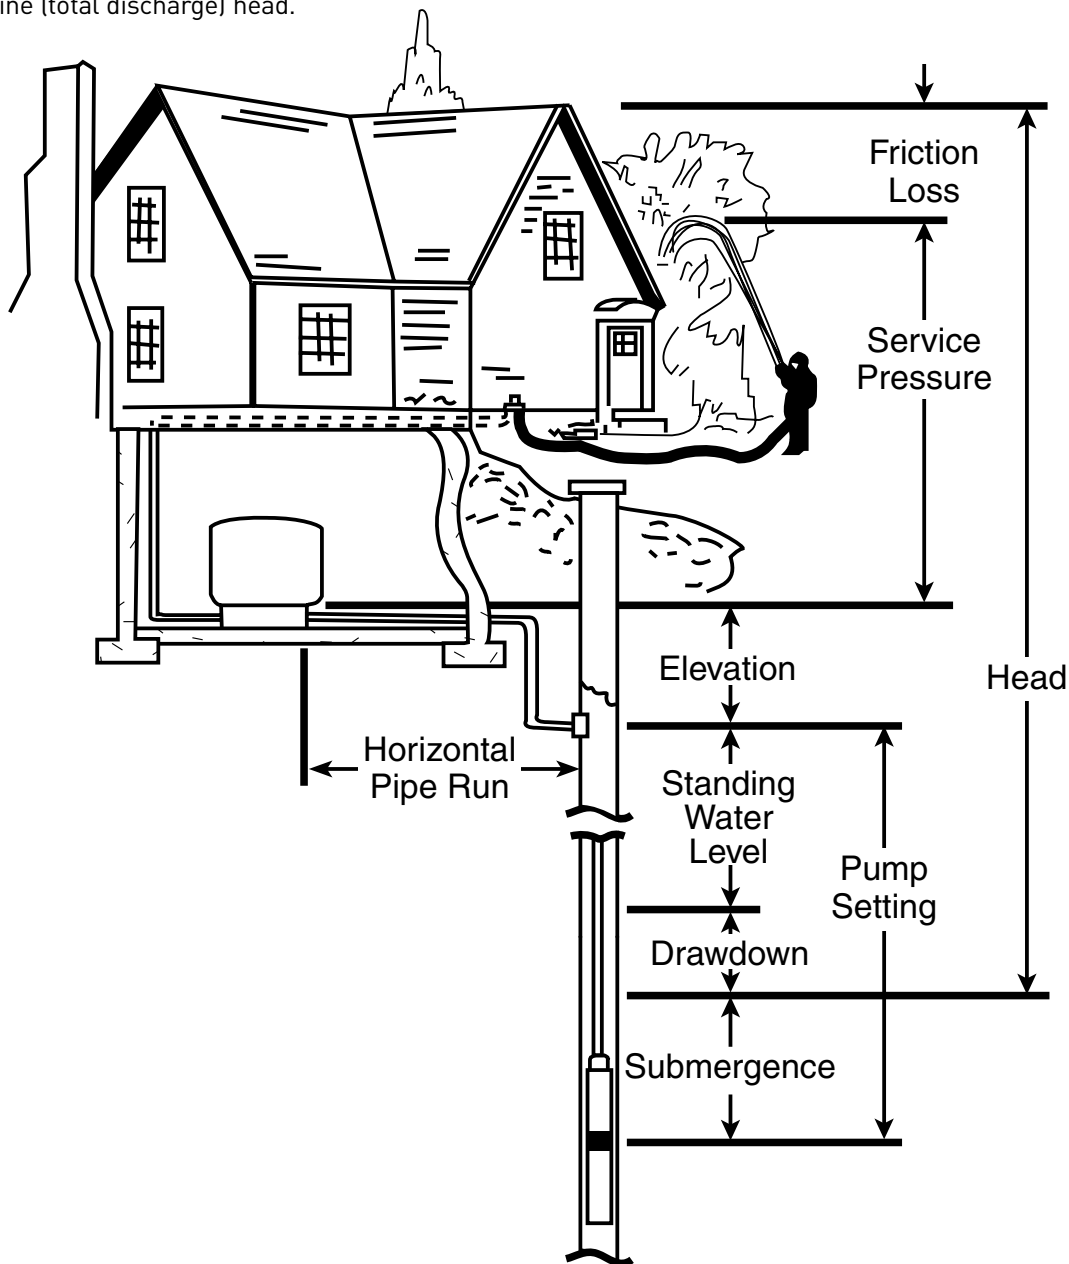

Figure 12-1: Common Pump Terminology
2. **What is the submergence?** The vertical distance in feet from the pump to the water level while the pump is operating (see Figure 12-1). If the pump is installed away from the well and is on higher ground, this elevation must also be included. This must not be confused with the standing water level.